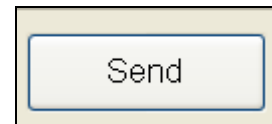

Figure 17.1.12
- Clicking on the **Send** button will send this sequence to the controller selected (Figure 17.1.12).